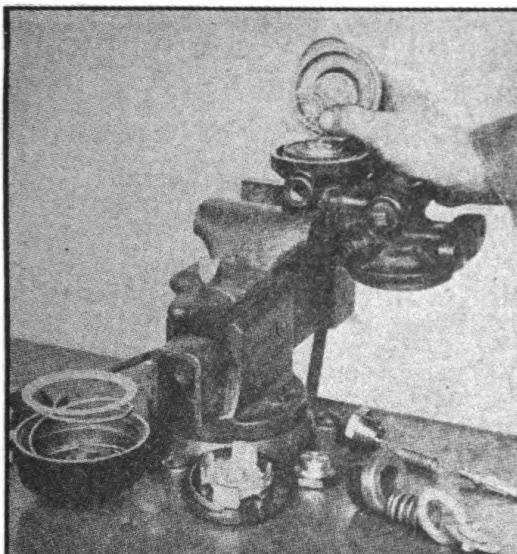

FIGURE 41. REMOVING DIAPHRAGM COVER BODY
1. Remove diaphragm cover body (Figure 41).